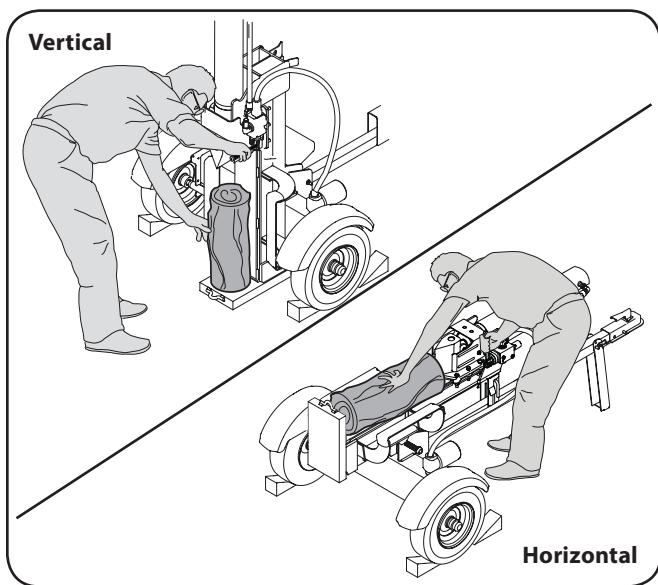

Figure 3-1
6. Always operate this machine from the operator zone(s) specified in the manual. See Figure 3-1.
- a. Horizontal Operating Position: Stand on the control lever side of the log splitter and stabilize log as shown, if needed. See Figure 3-1.
- b. Vertical Operating Position: Stand in front of the log splitter and stabilize log as shown, if needed. See Figure 3-1.